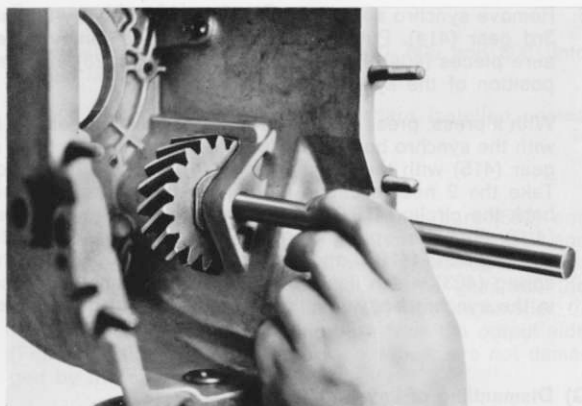

Fig. 18
(505) with special tool .3. or knock towards the output side with a fitted mandril (Fig. 18). Take out the reverse gear (502) with the 2 thrust washers (501). Pull the 2 needle cages (503) from the bore of the gear.